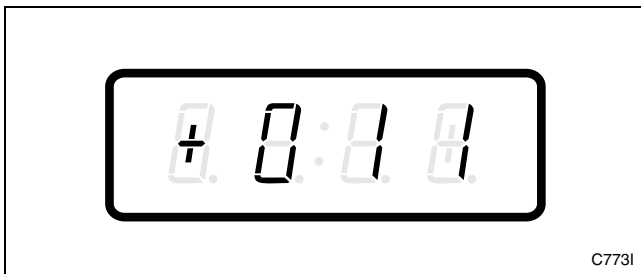

Figure 50
3. Press the DELICATES (+) or the COLD (-) keypad to scroll through the programmable options until “+011” appears in the VFD. Refer to *Figure 50*.